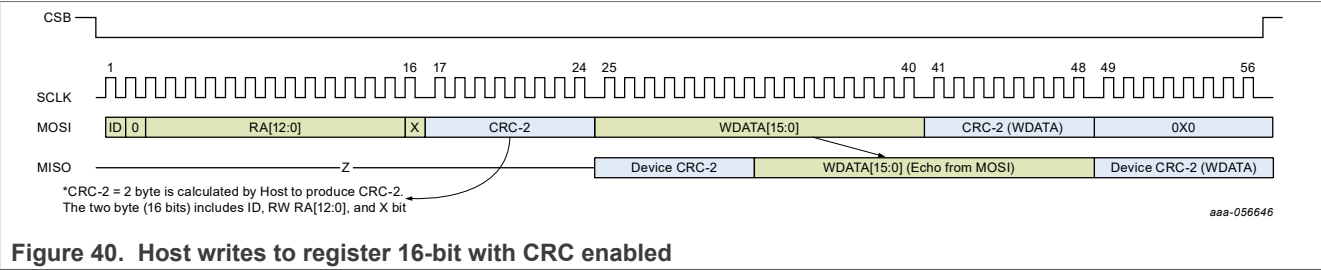
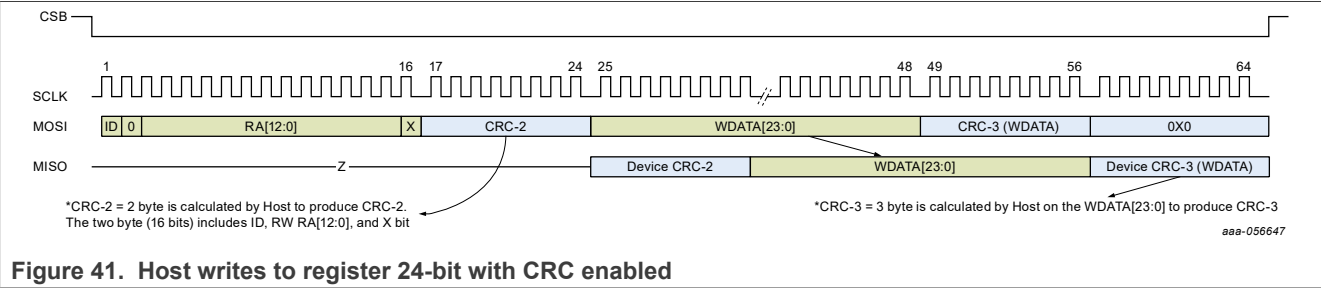

Figure 40. Host writes to register 16-bit with CRC enabled
Figure 41. Host writes to register 24-bit with CRC enabled
Figure 40 and Figure 41 show host writes 16-bit and 24-bit internal register respectively. There are two CRC bytes sent from host named CRC-2. The first CRC byte is calculated by the host from the first 16-bit data word which includes device ID bit, RWL bit, RA bits, and don't care bit (0). The second CRC byte is calculated from the 16-bit WDATA[15:0] or WDATA[23:0] if the host writes to the 16-bit register or 24-bit register, respectively. There is always an extra empty byte (eight extra SCLKs) required host send after the second CRC byte. The device needs extra clocks to check/verify with the on-chip CRC logic if the data sent by the host is not corrupted. After the CRC byte is received and a match is found with the device-calculated CRC, then the register update will take place. The controller can decide to drive an extra seven more clock cycles to receive